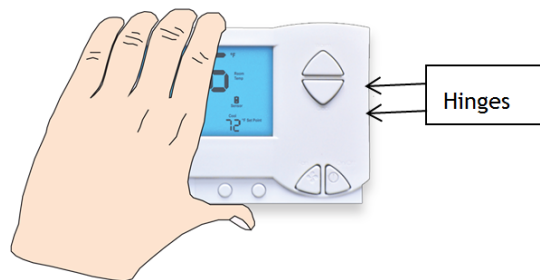

Figure 9: Line Up Hinges on Right
- Line up the hinges on the thermostat to the notches on the backplate. See Figure 9